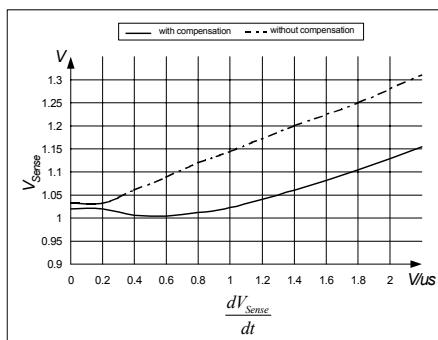

Figure 18 Overcurrent Shutdown
So current limiting is now capable in a very accurate way (see Figure 18).
E.g.  $I_{\text{peak}} = 0.5\text{A}$  with  $R_{\text{Sense}} = 2$ . Without propagation delay compensation the current sense threshold is set to a static voltage level  $V_{\text{csth}} = 1\text{V}$ . A current ramp of  $dI/dt = 0.4\text{A}/\mu\text{s}$ , that means  $dV_{\text{Sense}}/dt = 0.8\text{V}/\mu\text{s}$ , and a propagation delay time of i.e.  $t_{\text{propagation Delay}} = 180\text{ns}$  leads then to a  $I_{\text{peak}}$  overshoot of 12%. By means of propagation delay compensation the overshoot is only about 2% (see Figure 18).